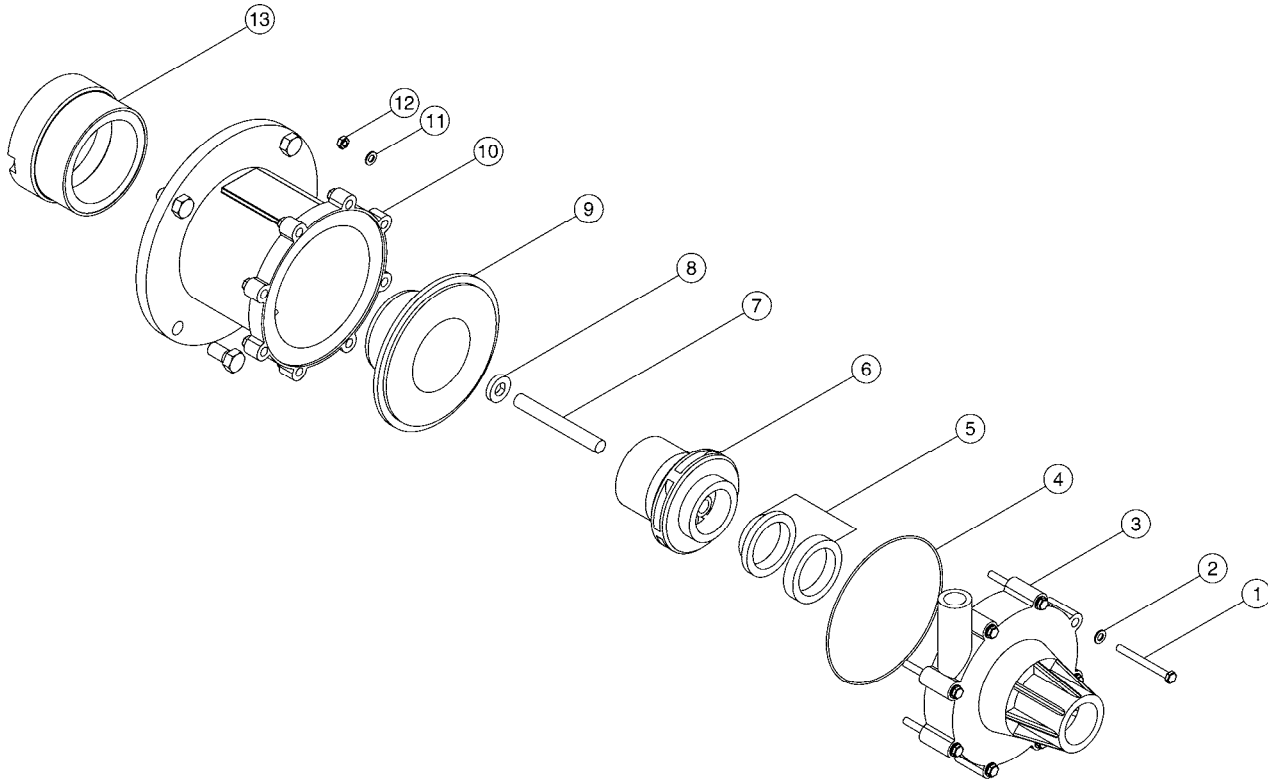

Figure 1-3. Exploded view of the Magnetic-Drive Centrifugal Pump.
Note: *An exploded view of the Magnetic-Drive Centrifugal Pump is shown in Figure 1-3.*
- 1. Refer to Figure 1-3 to locate and identify the various components of the Magnetic-Drive Centrifugal Pump.